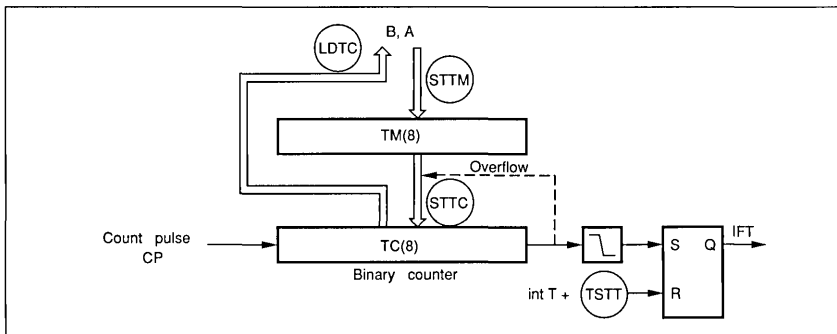
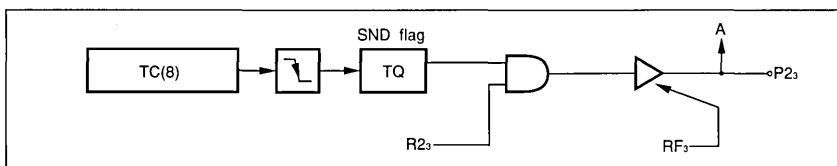

Fig. 5 Timer Counter
Fig. 6 SND Signal
The count register is an 8-bit incremental binary counter. It is incremented by one at the falling edge of its count pulse (CP) input. If the count register overflows, the timer interrupt request flag IFT is set, and the contents of the modulo register (TM) are loaded into the count register (See Fig. 5). The count pulse CP can be selected from divider signals f_{1N} , f_0 and the system clock, by using the mode register RD. If the count register (TC) overflows, the SND flag reverses its status at the falling edge of the TC. A sound signal can be obtained at the TC output by putting P2 in output mode and sending a "1" to pin P2₃ (See Fig. 6).